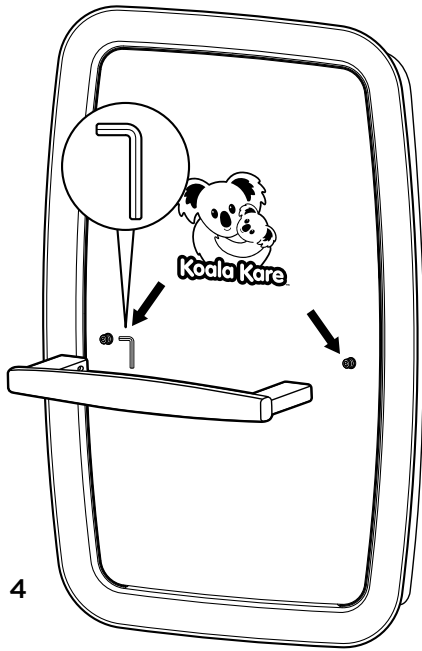

Fig. 4
- Use provided Allen wrench to tighten the set screws in the handle, securing it to the handle mounting studs. **Fig. 4**